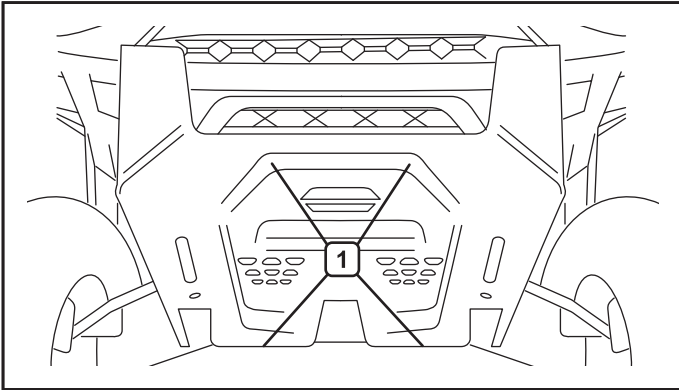

Figure 1.
1. Detach the front bumper from the machine by removing bolts (1) found on the backside of the bumper. See figures 1 and 2.